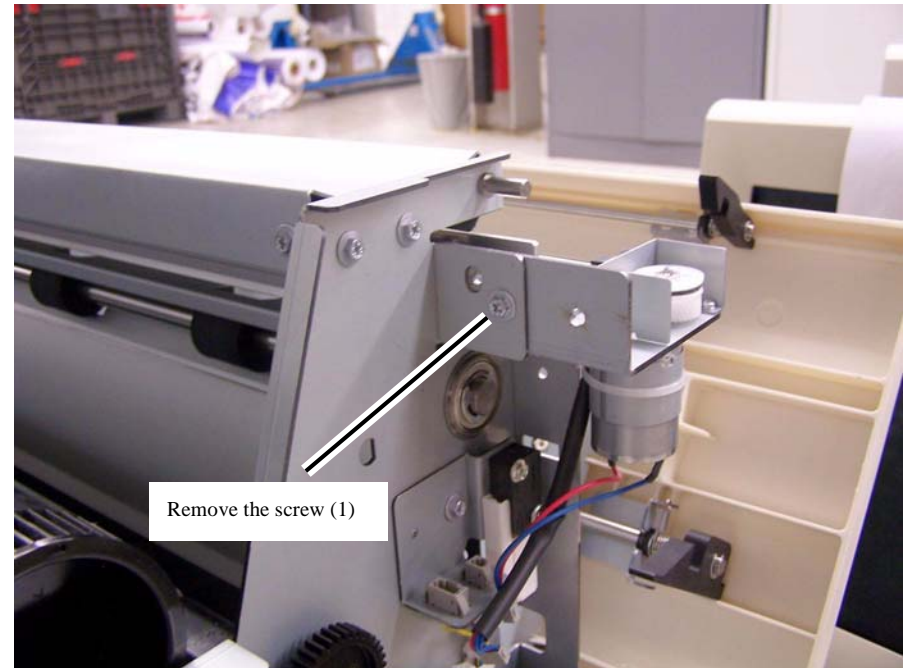

Figure 6 Removing the screw at the left end of the Cutter Assembly
8. Remove the screw that secures the Cutter Assembly to the left end of the RFC Drawer (Figure 6).